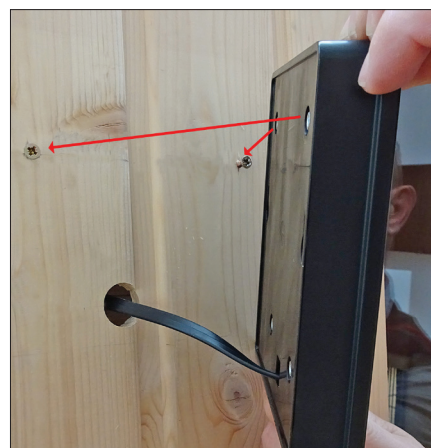

Fig. 3
- V. Finally, hook the operating unit onto the fixed screws (Fig. 3).